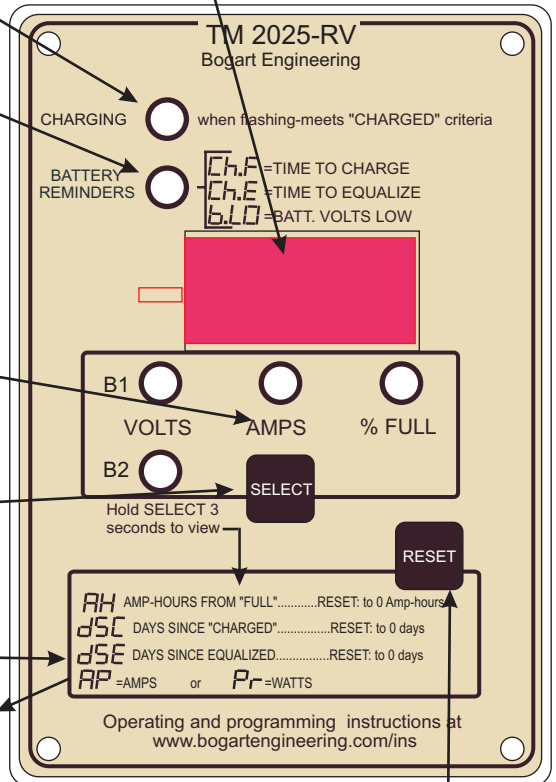

FIGURE 1 TM-2025 Operation Summary
2. Basic instructions for Operating Level L1: Refer to figure 1 which covers basic operation. It also has references for further information.
dSE Days since the battery was equalized. “Equalization” refers to occasionally overcharging a battery to help it maintain its capacity. It is usually recommended only for liquid electrolyte lead acid batteries, not AGM or Gel types. This display is intended to remind you when to equalize your batteries if this is not done automatically by your charging system. It is essentially just a manual timer, that reads in DAYS, so that you can see how long it has been since your batteries were equalized. Each day when not reset it will advance by 1.00 day. Then it must be MANUALLY RESET by you when you take action to equalize the batteries. For how to reset this, refer to Figure 1, in reference to the RESET button.
2.2.2. “Ch.E” (Charge Equalize) Reminder to equalize batteries occasionally, (typically monthly) if recommended by the battery manufacturer. Equalization refers to an occasional overcharge which is recommended by manufacturers of “liquid electrolyte” batteries (the ones with watering holes on top.) It is not ordinarily recommended for AGM or Gel type (VRLA) batteries. If you have liquid electrolyte batteries, and if you need to manually equalize, you can choose the equalization reminder interval (for example, once every 30 days) to flash “Ch.E” in the display after this interval. This feature is intended to remind you to equalize at regular intervals if equalization is not accomplished automatically by your charger or charge controller. Then, after you accomplish equalization you must manually reset the “Days since equalize” number as described in figure 1, by the RESET button. More information about equalization may be found in section 7: **Important information on how to keep from killing your batteries.** The number of days is programmed by Program P6. (See Table 2).